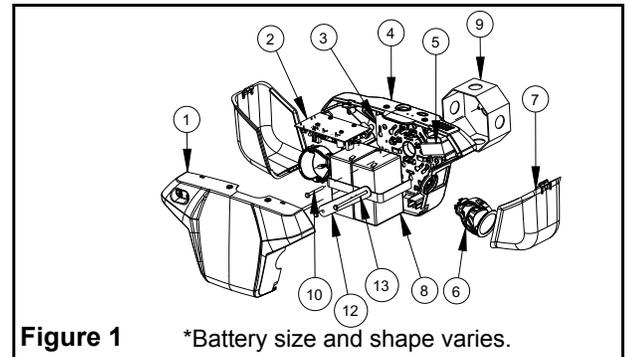
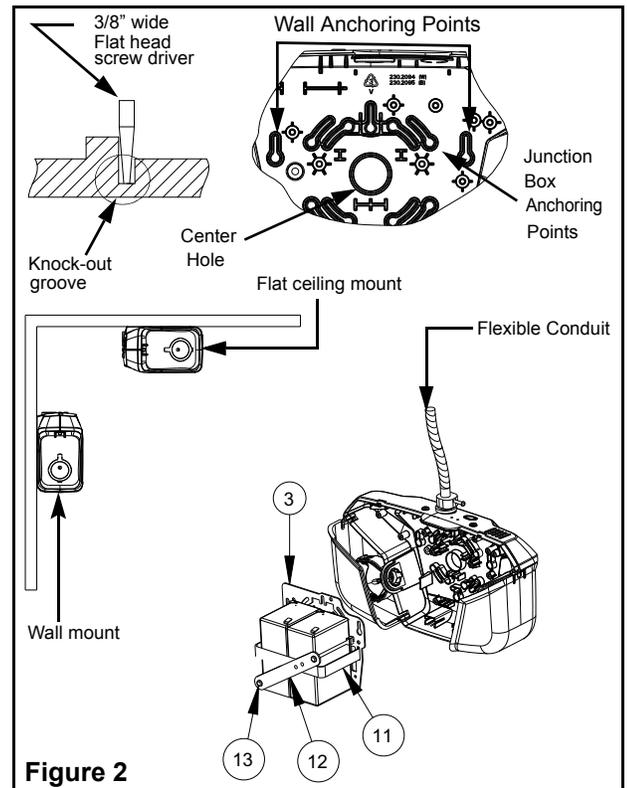

Figure 1 *Battery size and shape varies.
Figure 2
CAUTION: For models including battery support plate (3) it is critical to ensure that the battery bracket is properly screwed to the battery support plate (see Fig. 1). Failure to do so can cause serious injury.
3. Lay unit on a flat surface face up. Remove lenses (7) (See Fig. 1) and leave lamps detached from the housing.
4. Remove the front cover (1).
5. Remove the battery retaining bracket (See Fig.2) and battery(ies) and note how they are connected to reproduce this upon re-assembly.
1. Knock-out the proper hole pattern in the housing (4) to mount to a standard junction box (9) (See Fig. 2) according to the required orientation. To do so, it is recommended to place the unit on a flat solid surface with the back of the housing facing the surface. Prop up the unit on a roll of tape or other solid means to facilitate the removal of the knock-outs. Place the tip of a flat head screwdriver in the groove and knock out each detail with the help of a hammer (See Fig. 2).
2. Remove bubble wrap and install lamp assembly (6) (See Fig. 1).
3. Install means to anchor unit in line with "Wall anchoring points" (see Fig. 2). This is recommended for a more secure installation.
Follow same steps as outlined for Wall Mounting. No canopy is required.(See Fig.2.)
Remove knock-out for the conduit entry located on the top of the housing (See Fig. 2). Secure unit to the wall following "Wall mounting" or "Ceiling mounting" instructions and make appropriate connections. Isolate wires from building to avoid contact with the transformer.